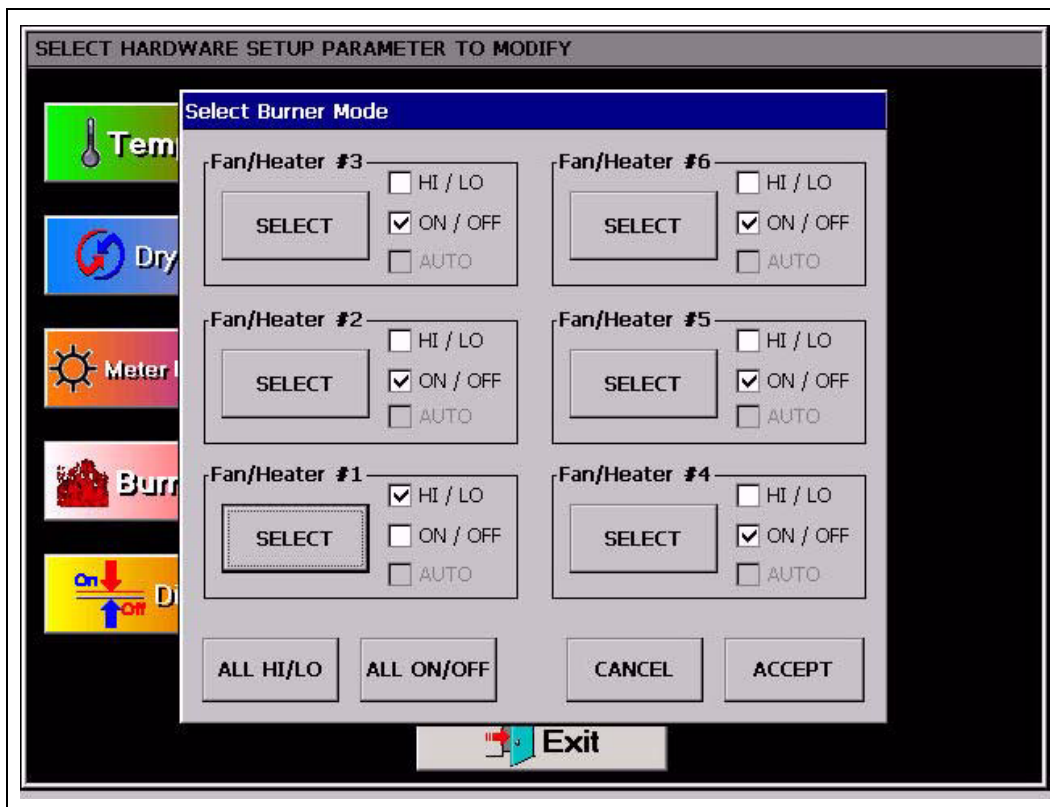

Figure 6H
5. **Burner mode:** Touching the Burner Mode button will display the Select Burner Mode screen. (See Figure 6H.) Tower dryer burner mode should always be set to ALL HIGH/LOW.